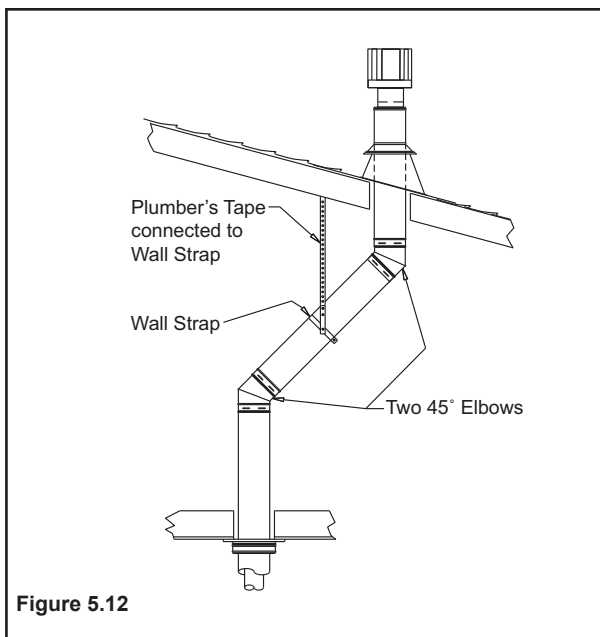

Figure 5.12
Set the gas appliance in its desired location. Drop a plumb bob down from the ceiling to the position of the appliance flue exit, and mark the location where the vent will penetrate the ceiling. Drill a small hole at this point. Next, drop a plumb bob from the roof to the hole previously drilled in the ceiling, and mark the spot where the vent will penetrate the roof. Determine if ceiling joists, roof rafters, or other framing will obstruct the venting system. You may wish to relocate the appliance, or to offset, as shown in **Figure 5.12** to avoid cutting loadbearing members.
- (1) If an offset is necessary in the attic to avoid obstructions, it is important to support the vent pipe every 3 ft. (914mm) to avoid excessive stress on the elbows, and possible separation. Wall straps are available for this purpose, **Figure 5.12**, page 16.
- (2) Whenever possible, use 45° elbows, instead of 90° elbows. The 45° elbow offers less restriction to the flow of flue gases and intake air.